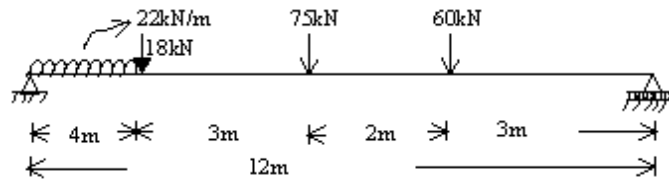

Figure 2:
- (b) Draw shear force and Bending Moment diagrams for the beam shown in (figure2). [8+8]